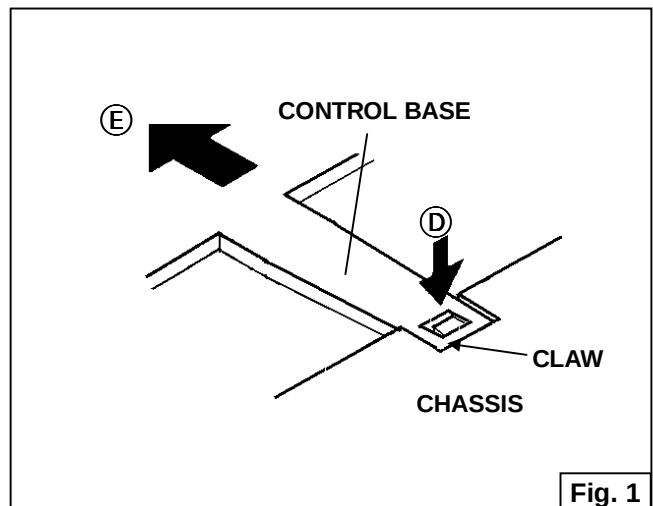

Fig. 1
1. As shown in Fig.1, while pushing down the claws marked **(D)**, remove the CONTROL BASE in the arrow direction **(E)** .